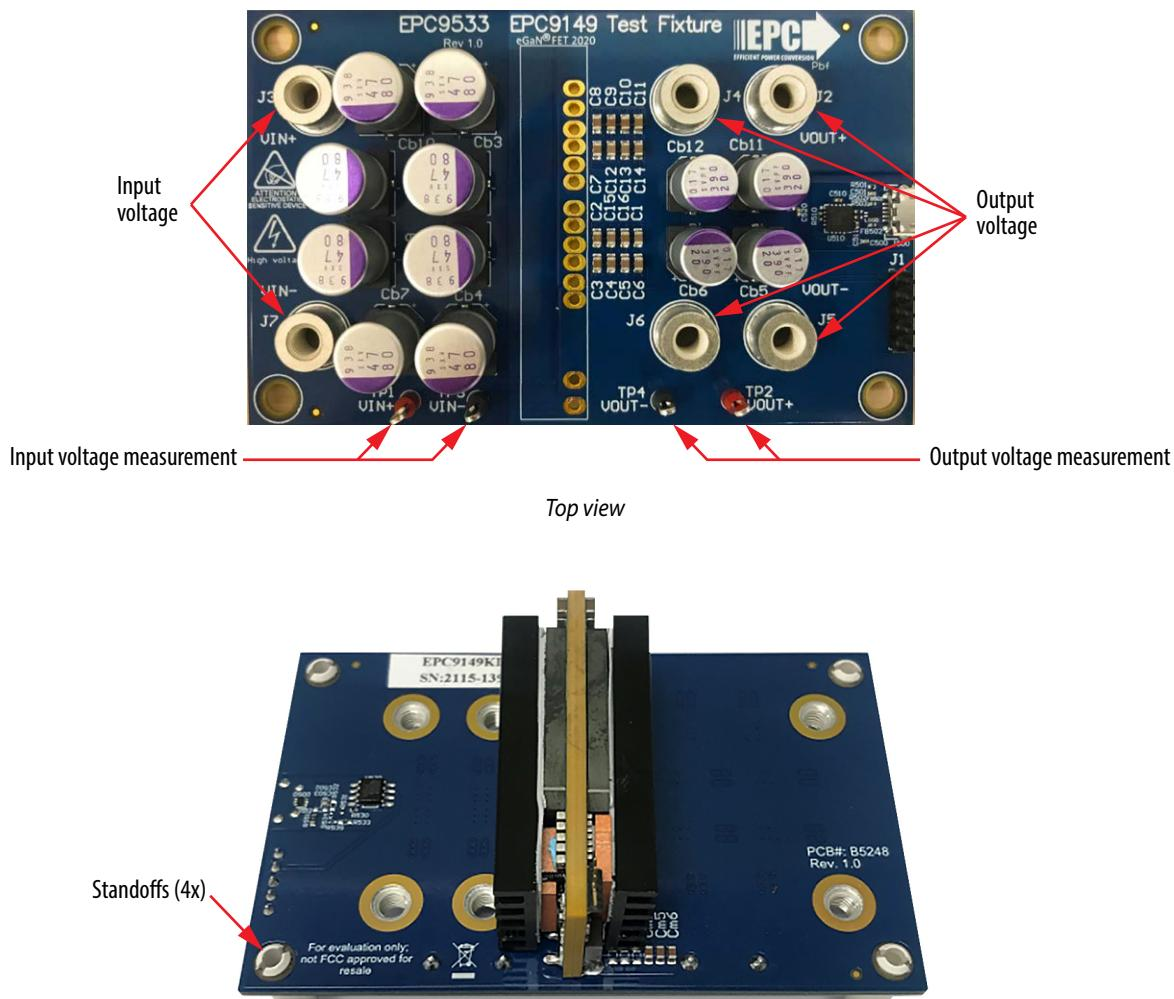

Figure 3: EPC9149 and motherboard assembly showing the input and output connections
3. With power off, connect the input power supply to V_{IN+} and V_{IN-} as shown in Figure 3.
4. With power off, connect the load to V_{OUT+} and V_{OUT-} as shown in Figure 3.
5. Connect the input and output kelvin connections shown in Figure 3 to the respective measurement instruments.